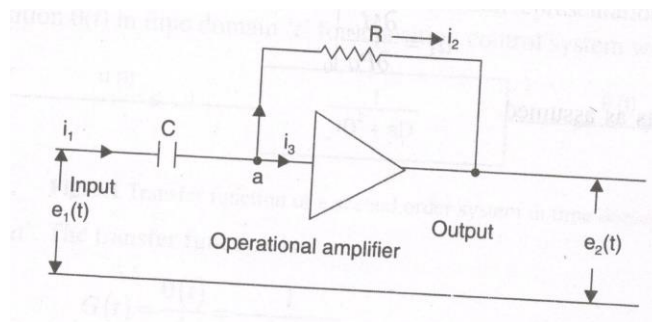

Figure2
6. Find the expression for the Operational amplifier of figure2 is of differential type, $e_2(t)$ is the output voltage and $e_1(t)$ is the input voltage . i_1, i_2, i_3 are currents as shown in figure2.